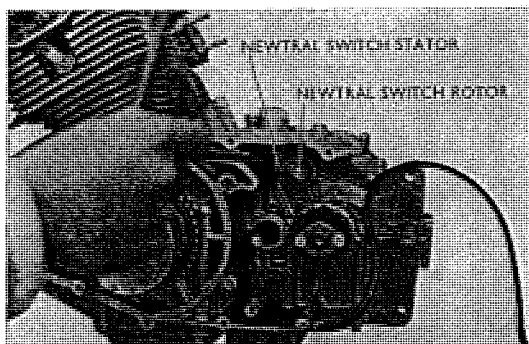

Fig. 3.53 Disassembly of neutral switch rotor
2. By removing the 6×35 bolts holding the adjuster fixing plate and clutch lever spring, the clutch adjuster can be separated. (Refer to Fig. 3.53)